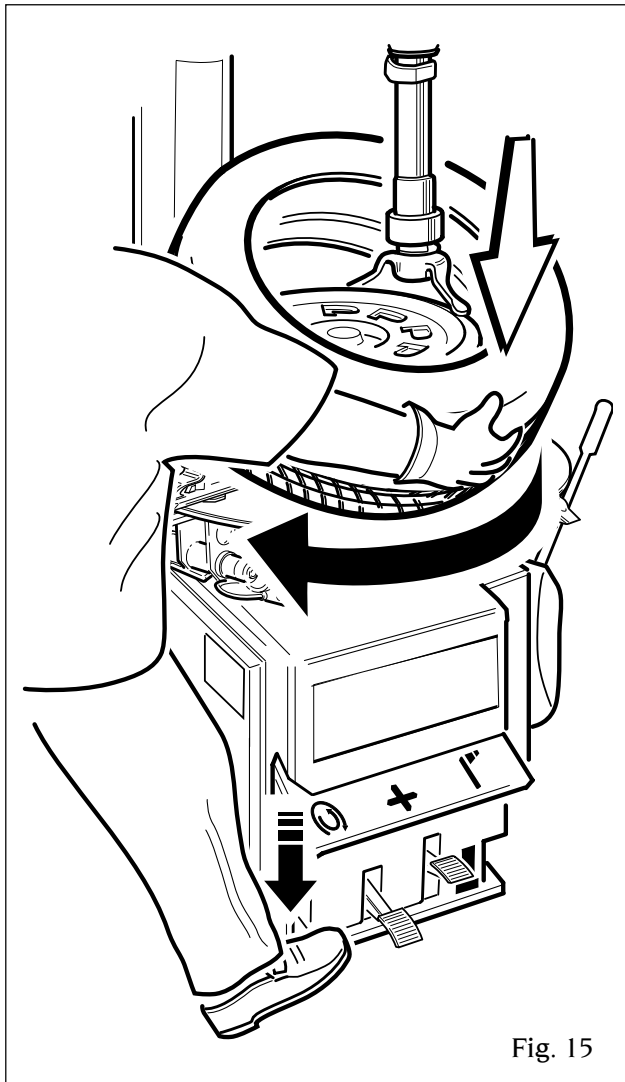

Fig. 15
- ❑ Place the tire on the rim and bring the swing arm into its operating position. Position the bottom bead (as shown in Figure 15) so that it is above the rear portion of the mount/demount head and below the front portion. Depress the table top pedal to begin clockwise rotation and thus mount the bead. Use the wheel's drop centre by pushing down on the sidewall opposite the head (as shown in Figure 15) to reduce tensional force on the bead as the wheel rotates.